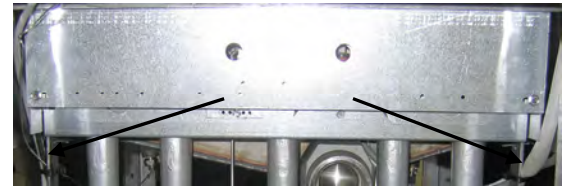

Figure 1
- Remove the outer cover plate by removing two screws as shown in Figure 1.